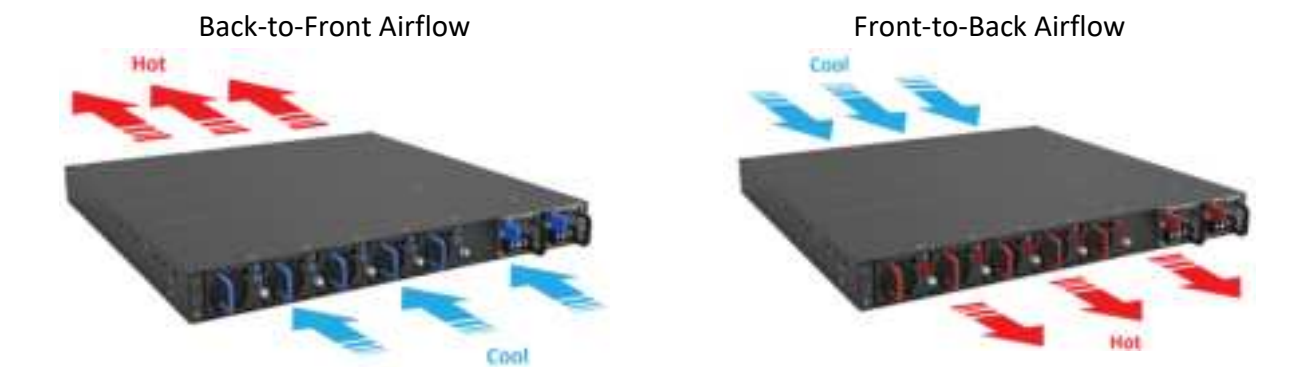

Figure 3.
- Cooling: The S8901-54XC has two options for airflow direction. There is a back-to-front option (Figure 3. Left) and a front-to-back option (Figure 3. Right). Make sure the equipment on the same rack have the same airflow direction.